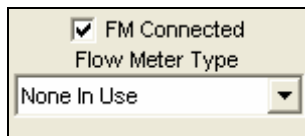

Figure 16.3.6A
4. Now check the **Flow Meter** box if a flow meter is assigned to this controller (Figure 16.3.6A).